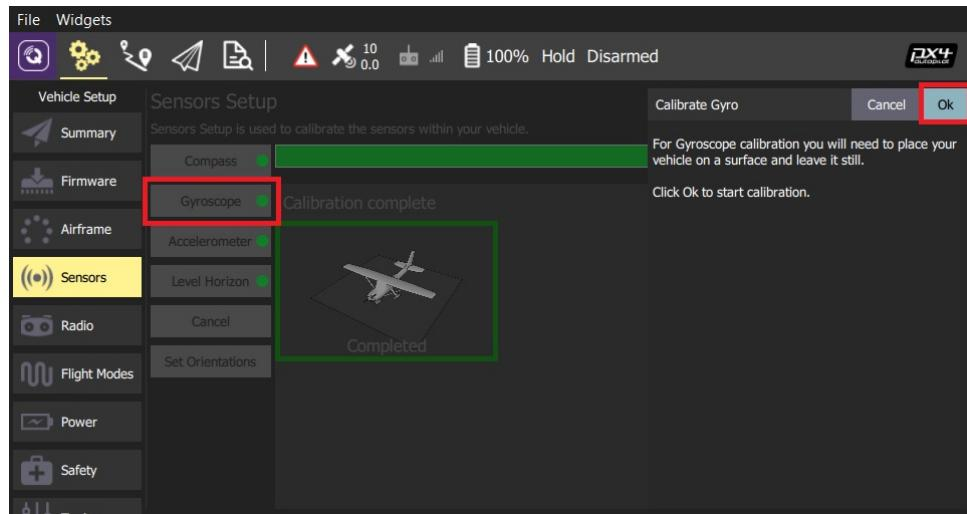

Figure 3.14: Select Gyroscope calibration PX4
1. Click the **Gyroscope** sensor button. See figure 3.14.